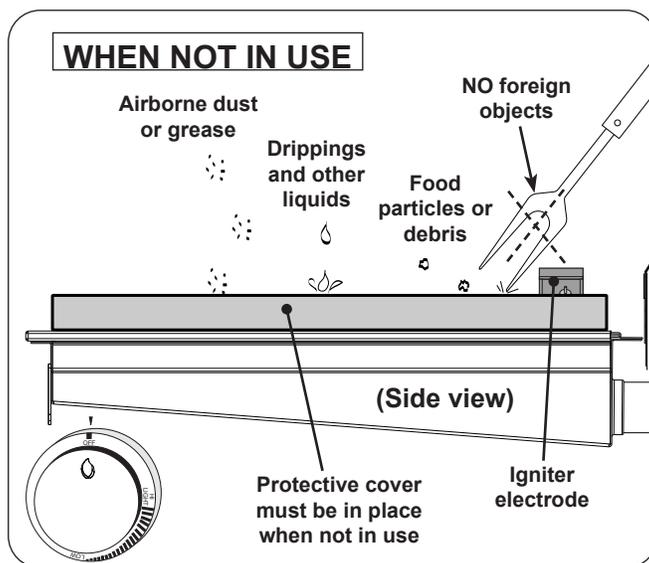

Fig. 8-2 Infrared burner - WHEN NOT IN USE
- When not in use, **always** cover the infrared burner with the stainless-steel cover. This protects the burner from drippings (from other cooking), water, airborne particles, and foreign objects (Fig. 8-2).
- Do not strike or scrape the ceramic portion of the burner as it may chip, crack, or break (Fig. 8-2).